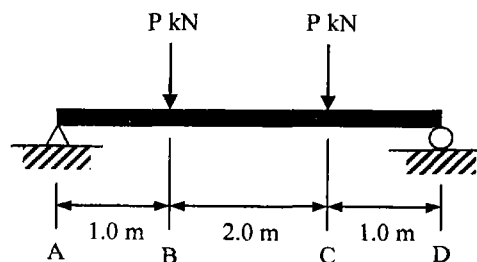

Figure 4 / Rajah 4
- (b) Figure 4 shows a beam with two concentrated loads of P kN. Determine the maximum deflection of the beam using the **double integration method** and assume EI is constant.